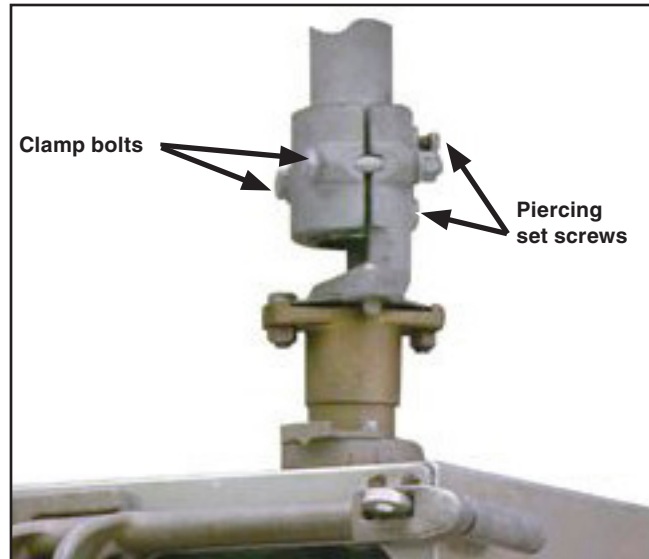

Figure 8. Tighten the clamp bolts and piercing set screws.
- STEP 1.** Manually operate the switch operator to bring it to the same position (fully **Open** or fully **Closed**) as the circuit-switcher. Tighten the flexible coupling clamp bolts equally so the clamp pulls down evenly. Then, tighten the associated piercing set screws, piercing the shaft, and continue turning until a firm resistance is felt. See Figure 8.